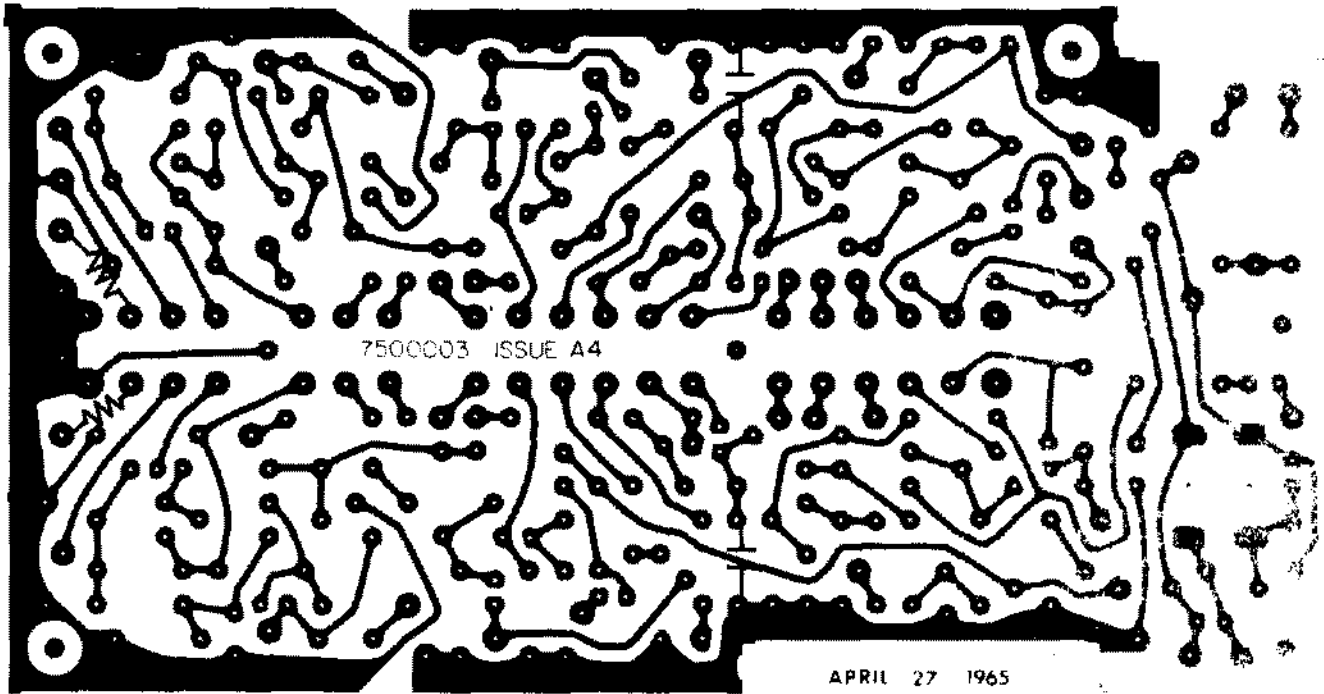
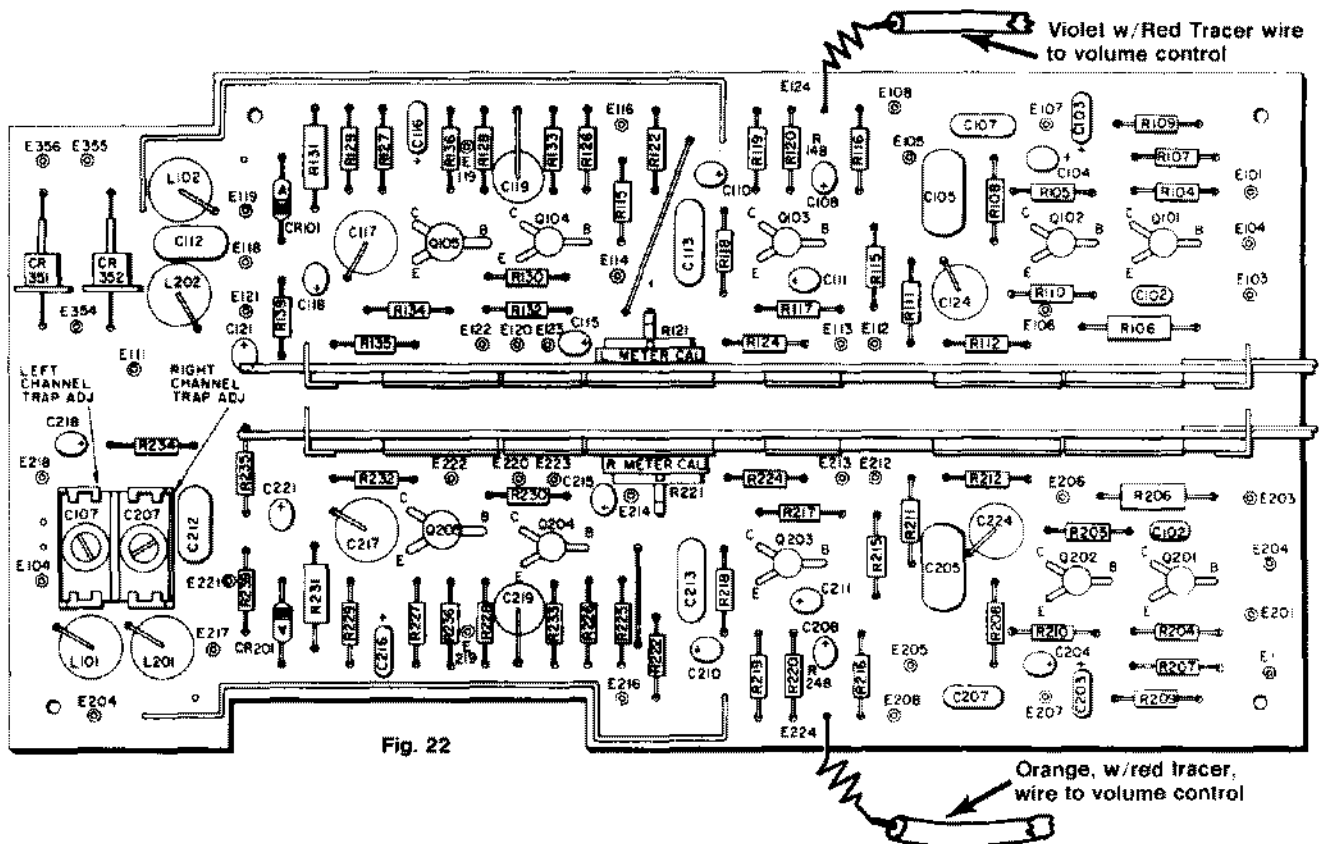

Fig. 21
Fig. 22
5. Solder the two (2) 10k resistors and the two (2) 680pf capacitors to the foil side of the printed circuit board at the points indicated in Figure 21.
7. Solder the two (2) 2.2k resistors to the component side of the printed circuit board as follows:
- b. Solder a 2.2k resistor to each terminal post then solder the wire from the volume control wiper to the other side of the resistors. The resistor leads should be kept as short as possible. See Figure 22.